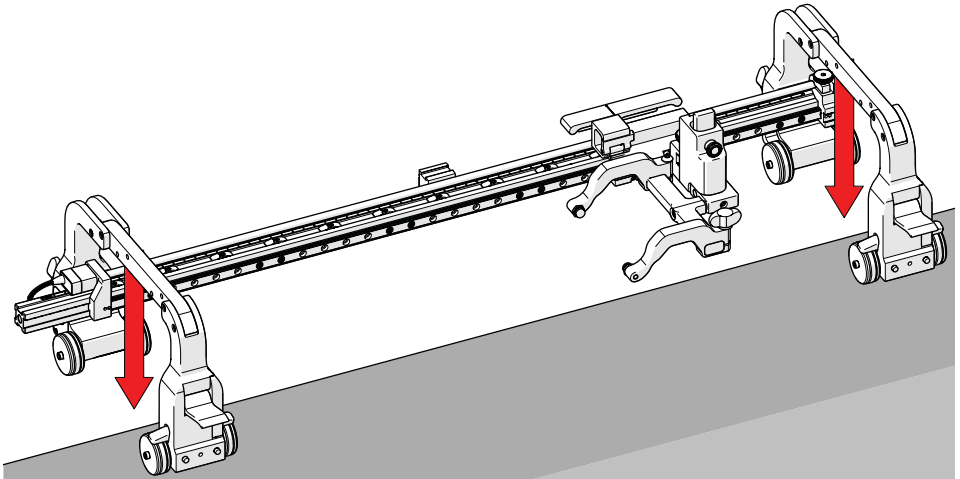

Fig. 6 - Place scanner on scan surface
3. Place the **STIX** on the scanning surface (*Fig. 6*).